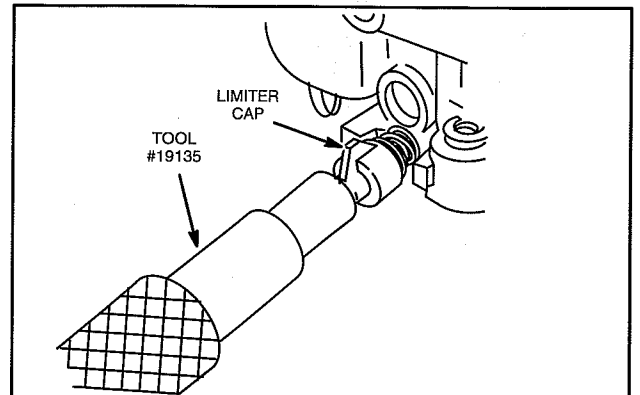

Fig. 139 – Install Limiter Cap
- a. Position limiter cap so that stop on limiter cap is at mid point between stops on carburetor body. Press limiter into position using knock out pin, Tool #19135 as shown in, Fig. 139.